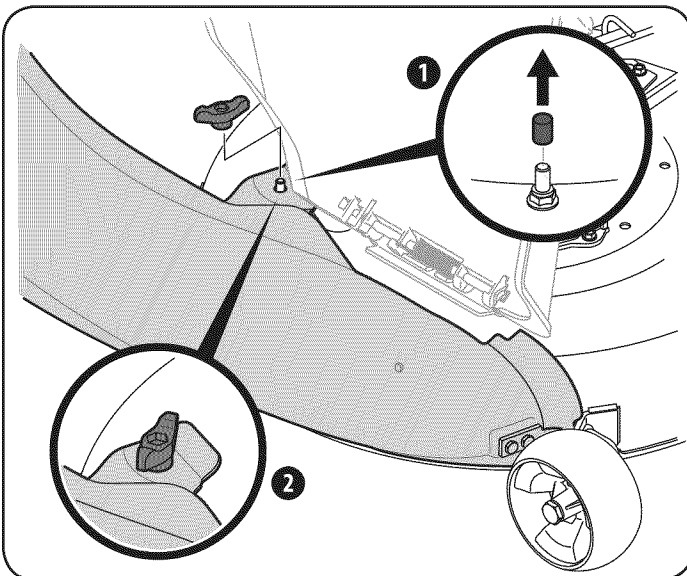

Figure 17
Note: Determine if your deck is a newer model, or an older model. Refer to the upper inset of Figure 17. If your deck has a mounting stud present, then you have a newer deck model and you would follow the instructions below. If no stud is present, refer to the instructions titled **On Tractors With Older Deck Configurations** later in this section.
2. Secure the chute elbow to the deck using the wing knob 720-04122 from hardware pack 689-00312. See Figure 17.
Note: If present, remove the protective cap off of the mounting stud on the mowing deck as seen in the upper inset of Figure 17.